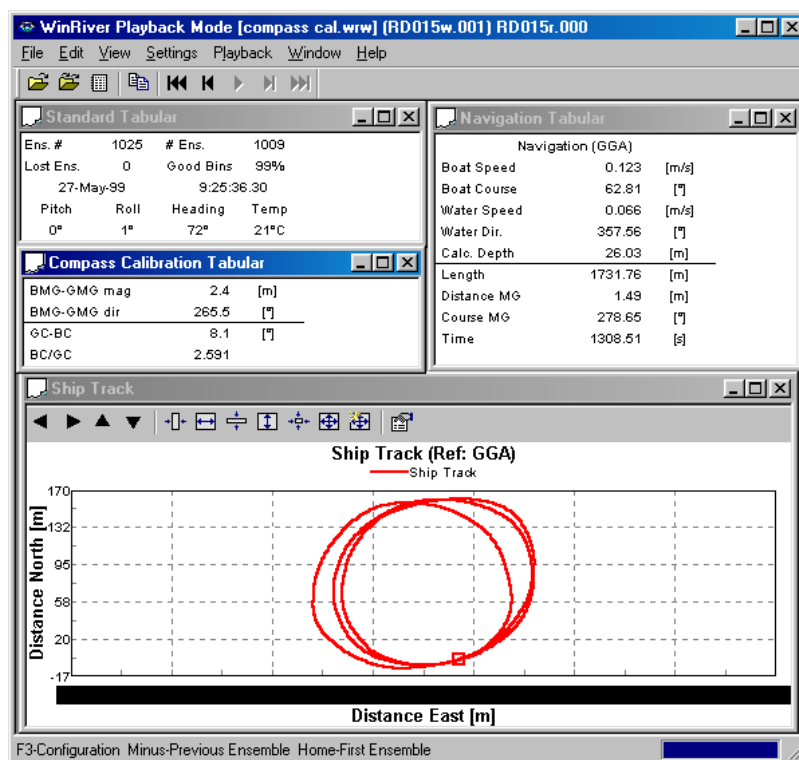

Figure 31. Method 2 Compass Correction with Correction Applied
- l. Start *WinRiver* in the Playback mode and replay the data using the corrected, GPS-referenced configuration file. The circle non-closure error indicated by the **BMG-GMG Magnitude** will be minimized. If the compass has been adequately corrected, the ratio of **BMG-GMG Magnitude** to **Length** should be 0.01 or less ($2.4/1731.50 = 0.0013$ in Figure 31).